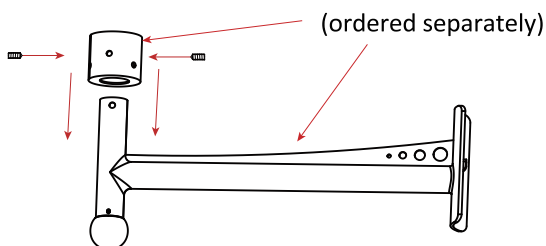

Fig. 10
3. Secure the $\phi 76$ tube adapter to the straight arm with two M8 screws. See Fig.10.